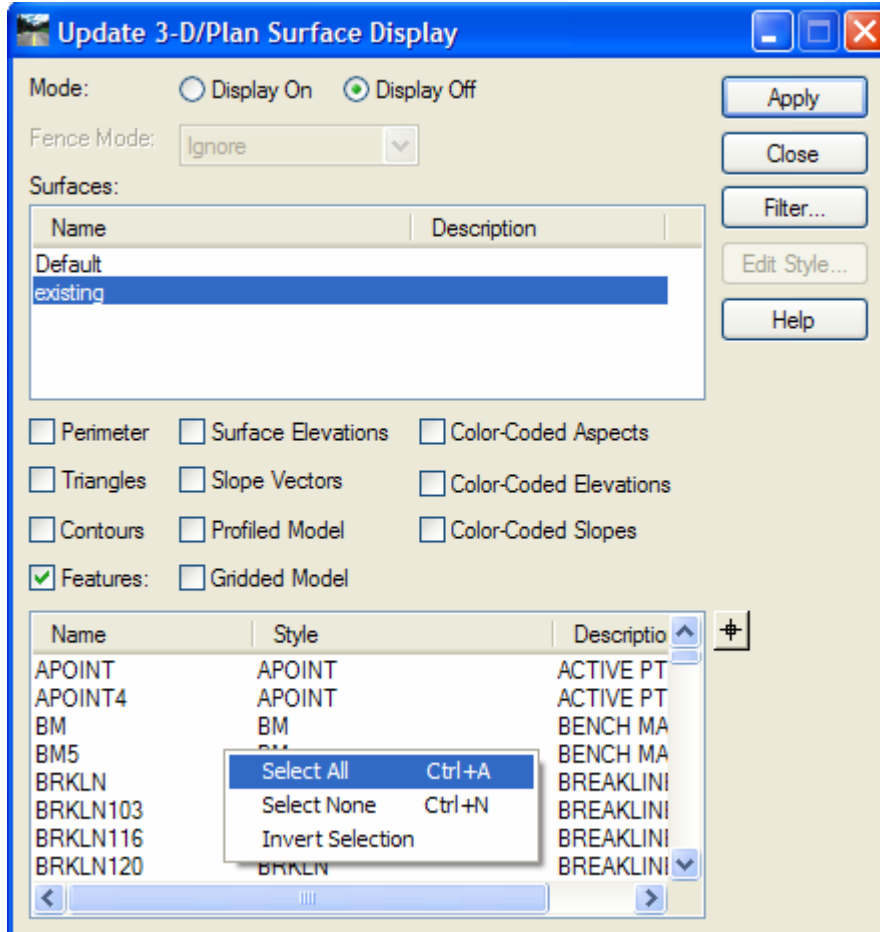

Figure 2-9 InRoads Update 3-D/Plan Surface Display
- O. On the InRoads Main Menu Bar click on **Surface>Update 3-D/Plan Display** (Figure 2-9). This display dialog box allows users to display on or display off the Perimeter, Triangles, Contours and Features in your file. Note: There are other functions within this dialog box that will not be covered in this lab.